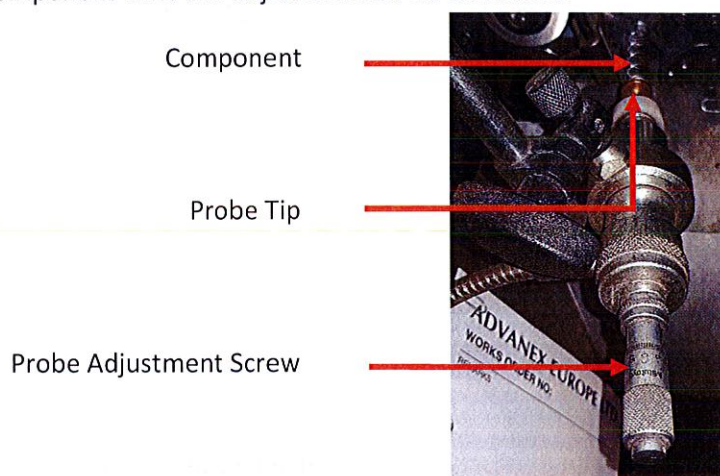

Figure 7. Free length gauge probe
- Via the length gauge probe (figure 7)